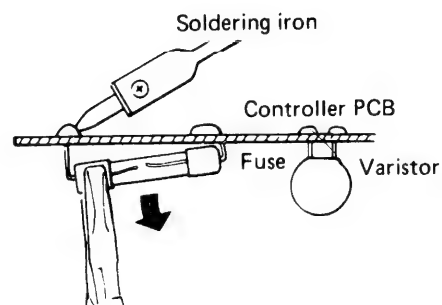

Fig. E-12
2. Pull out the fuse at the metal clasp by a pair of pliers while heating the soldered leads on the back side of the controller PCB with a soldering iron (30W or 60W). Fig. E-12.